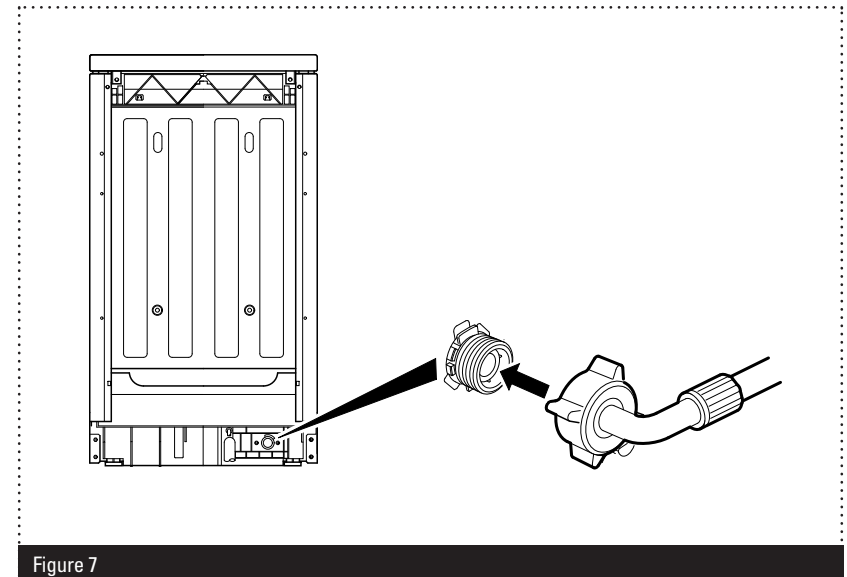

Figure 7
- 1 Connect the angled end of the fill hose to the cold water inlet on the rear of your Dishwasher by screwing the threaded connector clockwise (fig 7). Take care not to overtighten the connection. Hand tight is sufficient.